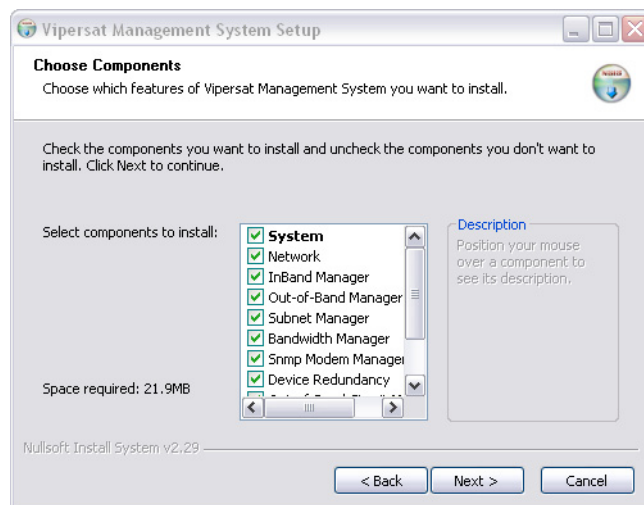

Figure 2-16 Choose Components dialog
11. The **Choose Components** dialog appears, as shown in figure 2-16. All services are selected by default for a typical VMS installation. It is recommended that these settings not be changed, except for non-standard installations.